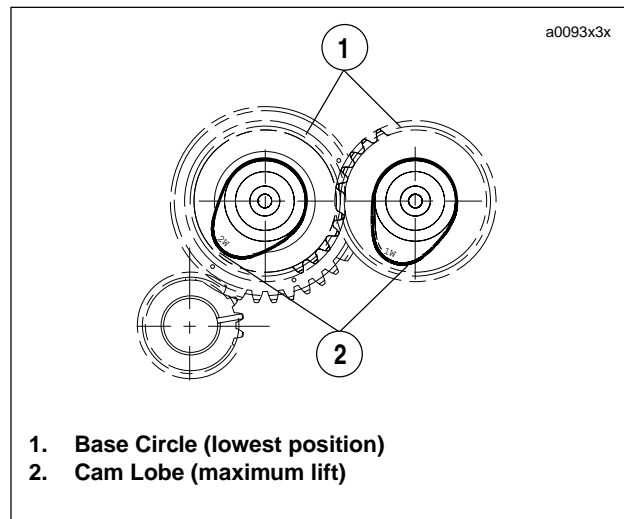

Figure 3-97. Base Circle
1. See Figure 3-97. Rotate engine so that both lifters, from the cylinder will be installed on the base circle of the cam.